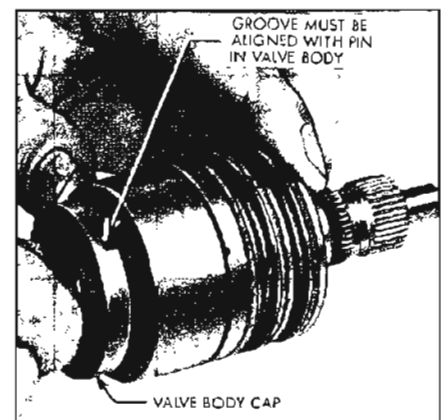

Figure 8-44—Assembling Stub Shaft, Torsion Bar and Cap Assembly in Valve Body
3. Assemble the stub shaft torsion bar and cap assembly in the valve body, aligning the groove in the valve cap with the pin in the valve body. See Figure 8-44. Tap lightly on the cap with a soft mallet until cap is against the shoulder in the valve body. Valve body pin must be in the cap groove. Hold these parts together during the rest of valve assembly.